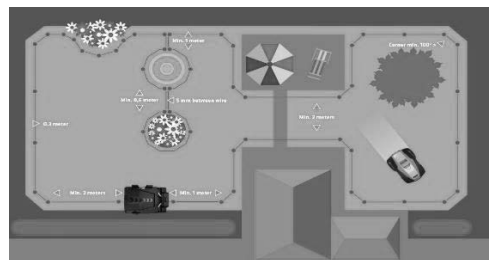

Figura 1
- Don't make perpendicular corners (90°). The corners must be at least 100°. (figura 1 – page 61)
Place the docking station as shown in the sketch (figura 1) and insert the first peg.